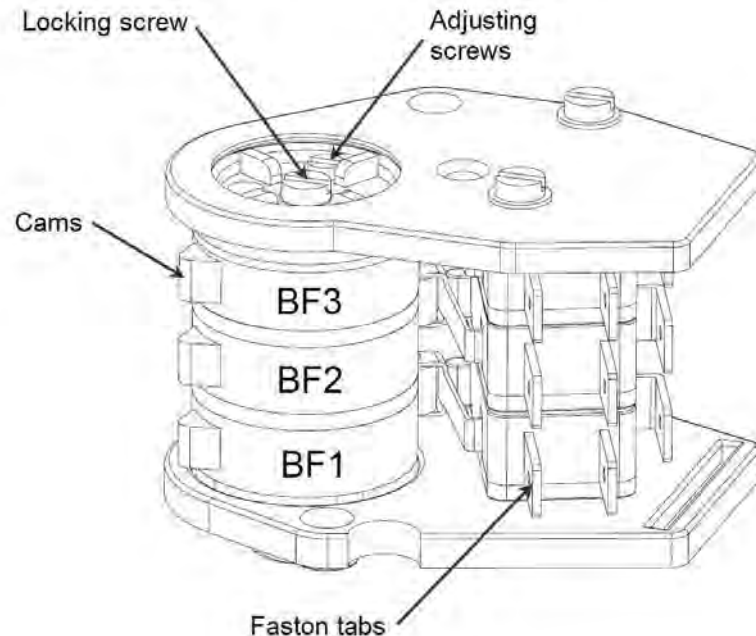

Figure 11 – Geared rotary limit switch
- Loosen the central locking screw (refer to Figure 11).